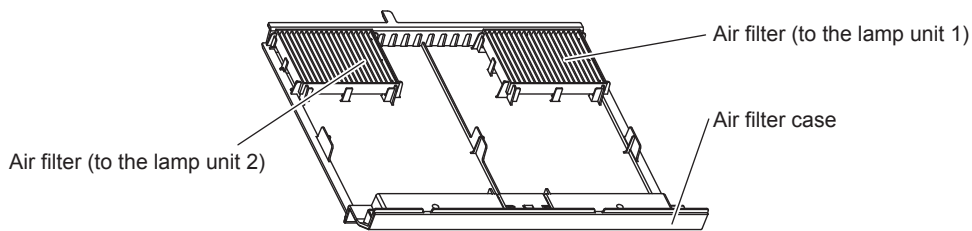

Fig. 1
1) Attach the air filter. (Fig. 1)